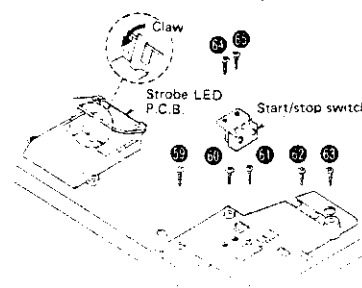

Fig. 15
2. Shift the claws which fasten the printed circuit board in the direction of the arrow to remove the board. (Fig. 15)
2. Remove the 5 setscrews (Fig. 15 : ① ~ ⑤) of the speed selector P.C.B.
3. Remove the setscrews ⑥, ⑦ in Fig. 15 to remove the start/stop switch.